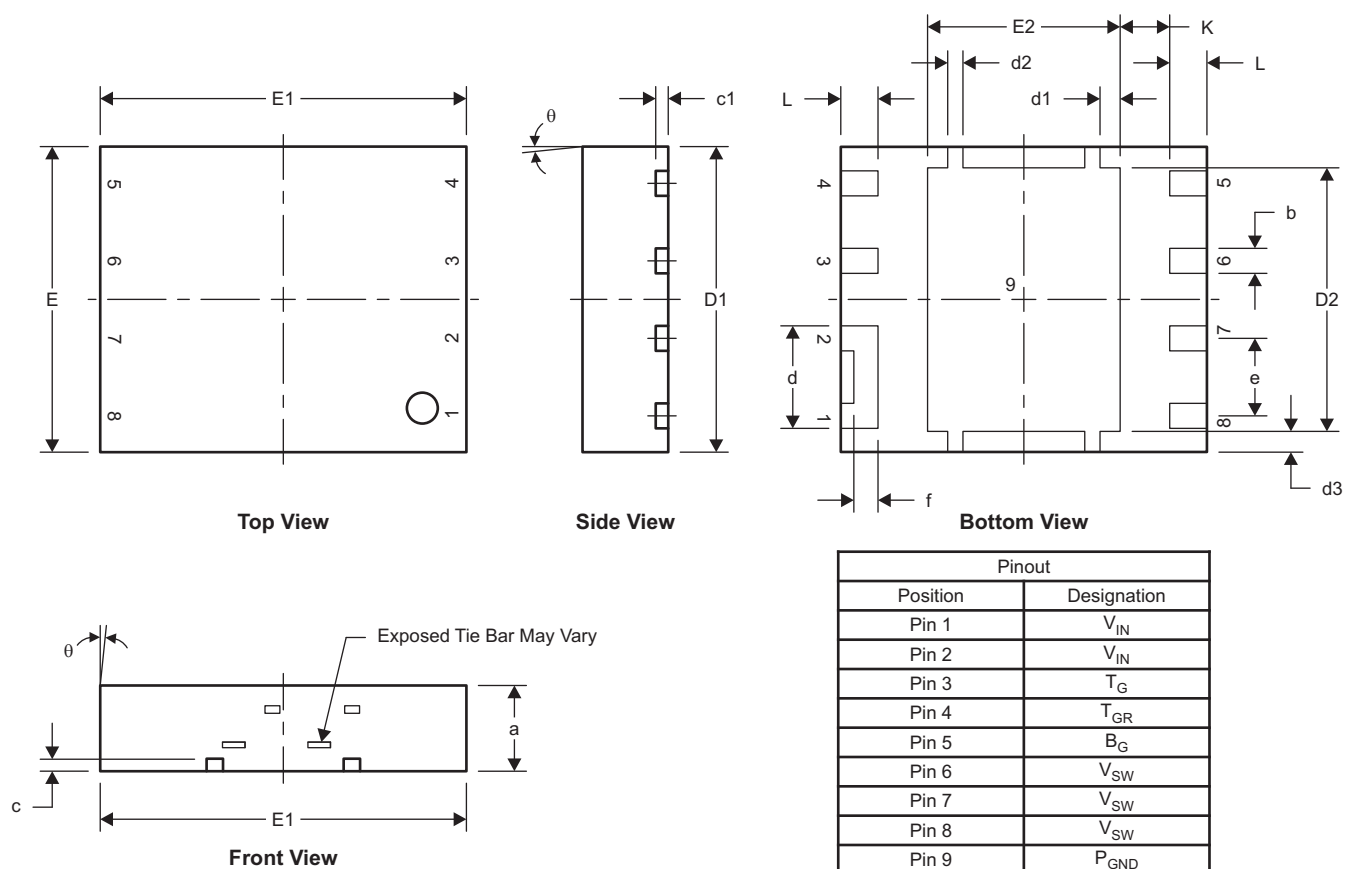

**Figure 34. Recommended PCB Layout (Top Down View)**
- The placement of the input capacitors relative to the Power Block's VIN and PGND pins should have the highest priority during the component placement routine. It is critical to minimize these node lengths. As such, ceramic input capacitors need to be placed as close as possible to the VIN and PGND pins (see Figure 34). The example in Figure 34 uses 6x10μF ceramic capacitors (TDK Part # C3216X5R1C106KT or equivalent). Notice there are ceramic capacitors on both sides of the board with an appropriate amount of vias interconnecting both layers. In terms of priority of placement next to the Power Block, C5, C7, C19, and C8 should follow in order.
- Use the smallest drill size allowed in your design. The example in Figure 34 uses vias with a 10 mil drill hole and a 16 mil capture pad.